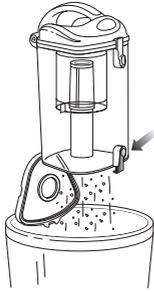

Fig. 18
- 2 Hold the dust cup over a trash receptacle and press the bottom door release button. **(Fig. 18)** Tap gently to empty contents. Press the door shut again until it clicks.